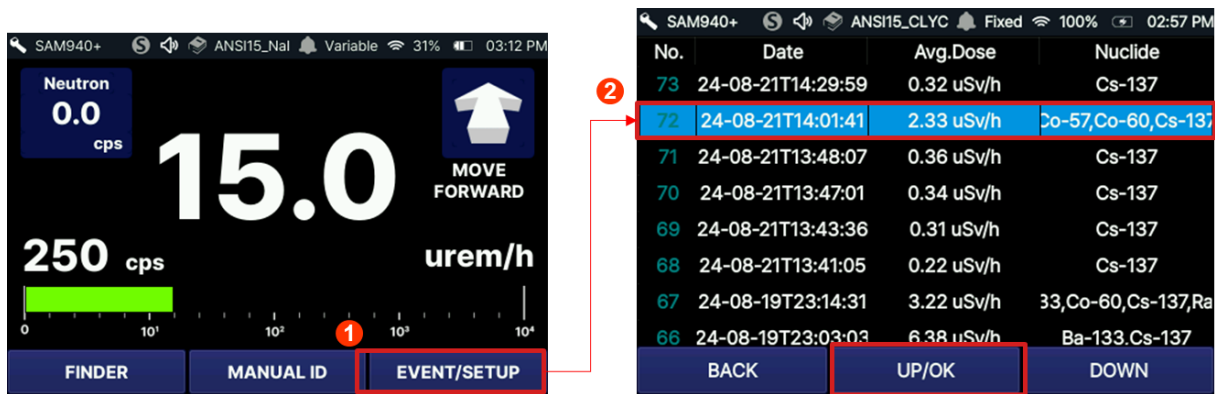

Figure 6.1.1. Access to event log
Saved event file can be assessed by selecting **EVENT LOG** as shown in figure 6.1.1.
1. To open the Event Log, select **EVENT LOG** from the Main Screen (Figure 6.1.1.):